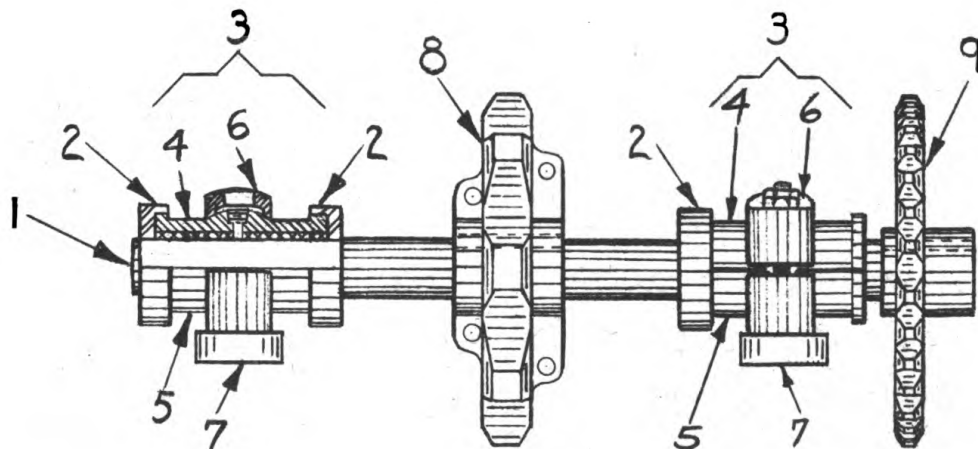

FIGURE 116
1. Loosen set screws in hub of sprocket (9) Fig. 116, remove sprocket.
2. Bearing (3) is loose on shaft.
3. Loosen set screws in collar (2), and remove collar.
4. Loosen set screws in hub of sprocket (8), and remove bolts that secure halves of sprocket, remove sprocket.
5. Loosen set screws in collars (2), and remove collars and bearing (3).